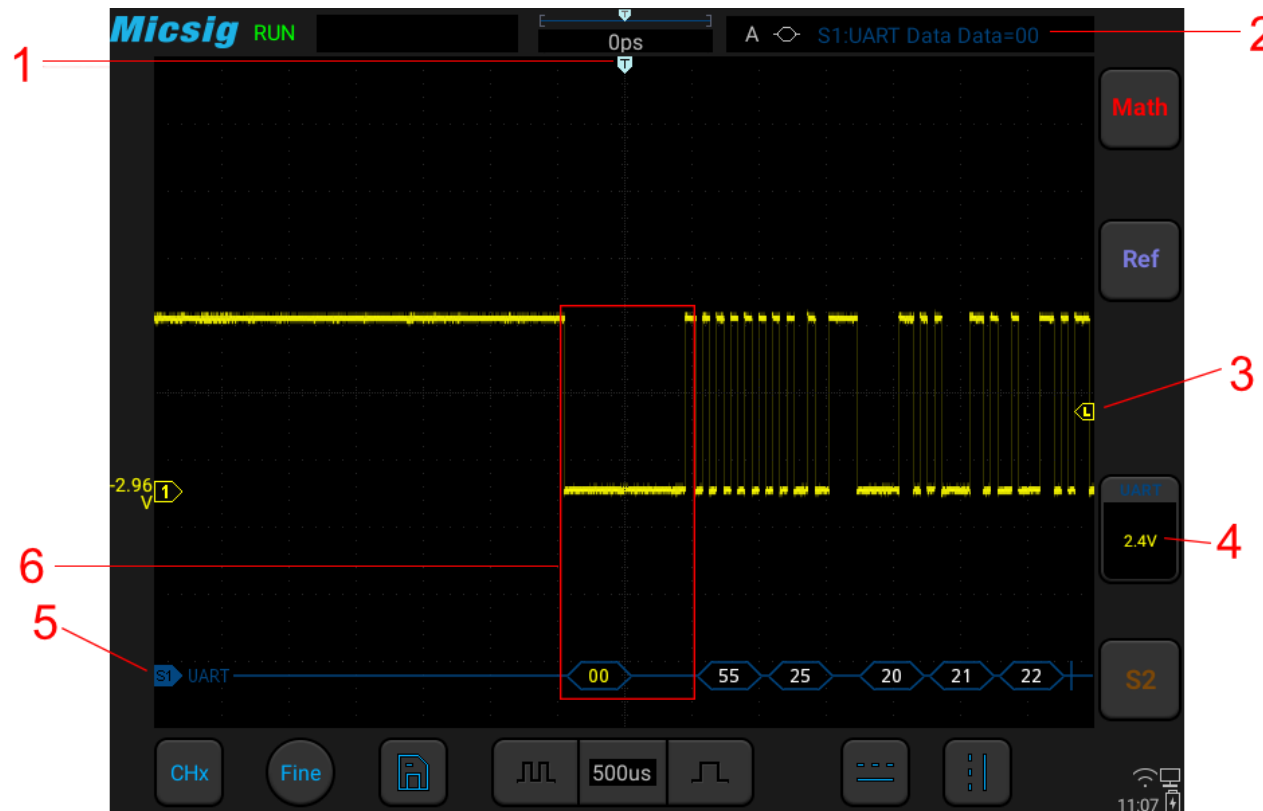

Figure 12-8 UART Graphic Interface
- (1) Tap S1 to open the decode channel, and click S1 again to open the bus configuration menu;
- (2) Select the bus type as “UART”, click “Ch1”, “Idle High”, “Parity None”, “8bit”, “19.20kb/s”, display “hexadecimal”, then close menu;
- (3) Open the trigger mode setting menu, click “Data”, enter 55 manually, and press “enter” to confirm;
- (4) Adjusting the threshold level according to the amplitude level of signal may make the signal to be stably triggered. The UART trigger graphic interface is shown in Figure 12-8: